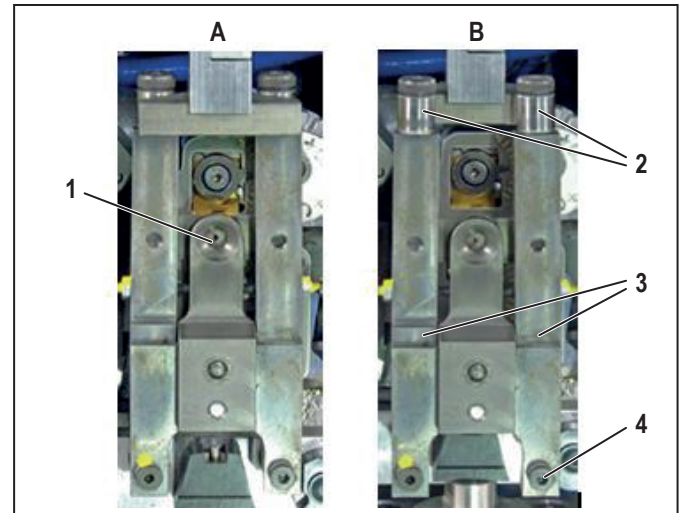

Figure 8.3 Stranded wire fixing unit in operating position (A) and pulled forward (B)
- ▶ Pull the stranded wire fixing unit forwards (Figure 8.3, B).
- ▶ Check whether the rollers (2) are able to move freely. If necessary, lubricate the rotation points of the rollers.
- ▶ Oil the rotation points (4) of the stranded wire fixing unit.
- Ensure that the stranded wire fixing unit is located in the front position (Figure 8.3, B).
- Remove the bottom right screw of the stranded wire fixing unit (Figure 8.3, 4).